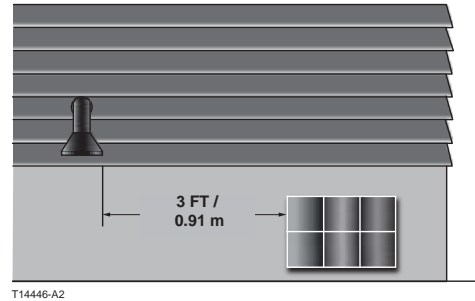

Figure 2. Regulator with Vent Pointed Down
- Install the regulator with the vent pointed vertically down, see Figure 2. If the vent cannot be installed in a vertically down position, the regulator must be installed under a separate protective cover. Installing the regulator with the vent down allows condensation to drain, minimizes the entry of water or other debris from entering the vent and minimizes vent blockage from freezing precipitation.